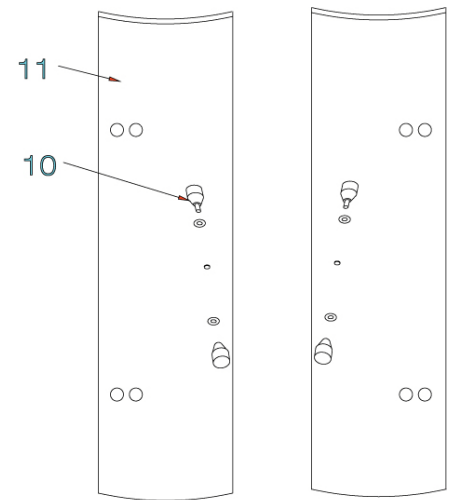

FIG.5
1. Assemble the door handles (#10) to the door (#11) as shown. [SEE FIG.5]